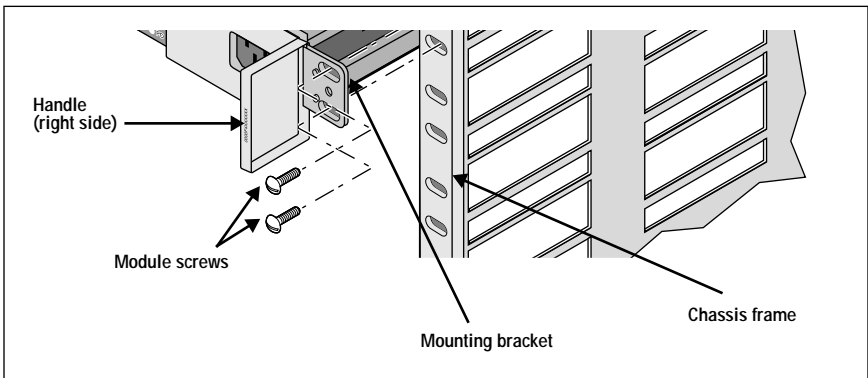

Figure 13: Attaching the Front of the Module to the Rackmount Chassis
See Figure 13 for the location of the handle.
12. Attach the mounting brackets of each module to the chassis frame with the screws provided, as shown in Figure 13.
See Figure 13 on page 15 for an example.